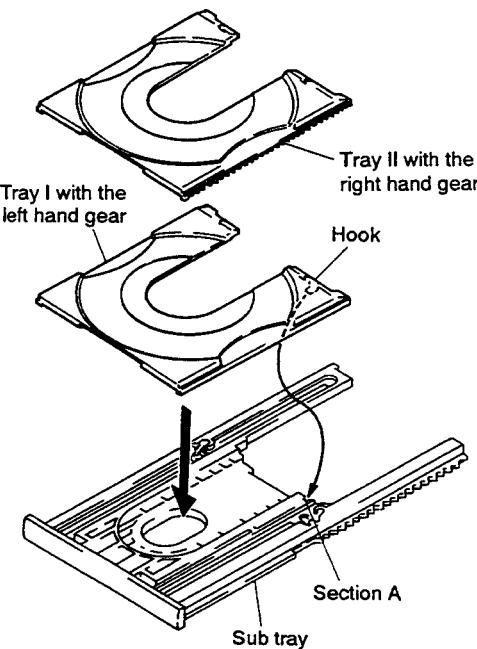

Fig. 2-13
(2) As shown in Fig. 2-13, attach the tray I or II to the sub tray by the hook applied to the section A. At that time note that the tray I has the gear on the left hand, and the tray II has the gear on the right hand. When attaching respectively, make sure the position where the lock lever attached.